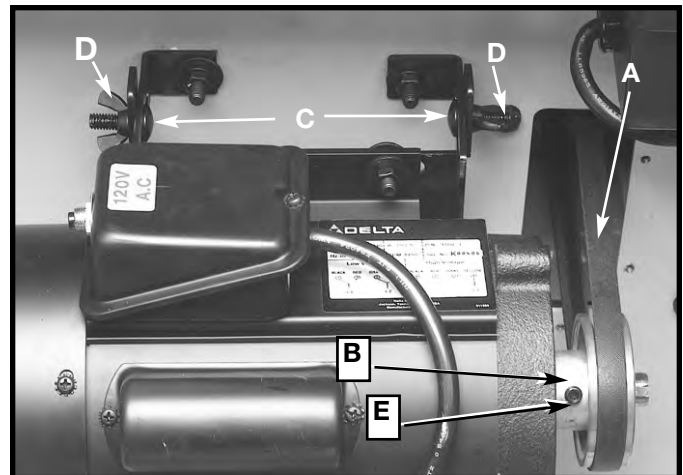
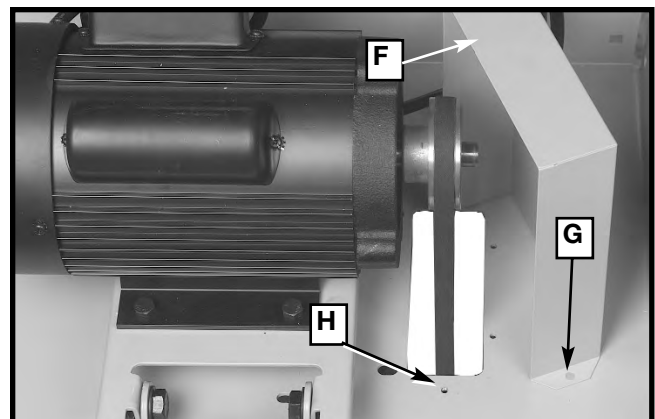

Fig. 8A
Fig. 8B
1. Slip belt (A) Fig. 8A, over motor pulley (B).
3. Be sure the pulleys are aligned properly. To adjust, loosen set screw (E) Fig. 8A with a $\frac{3}{16}$ hex wrench and move motor pulley to proper position. Once set, retighten set screw.
4. Other adjustments are possible. Loosen screws (D) and (C) Fig 8A and slide sanding unit right or left if needed. Retighten all hardware before continuing.
5. Insert carriage bolts (C) Fig. 8A from inside out to attach free end of motor to motor mounts.
7. Thread wing nut (D) onto carriage bolts and tighten securely.
8. Place belt guard (F) Fig. 8B over pulley and belt. Align the holes in the guard (G) with the holes in the shelf (H). Fasten the guard to the shelf with four #10-32 machine screws.